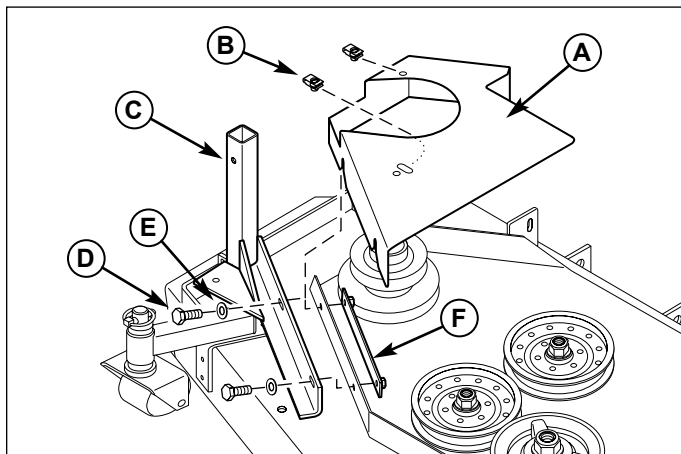

Figure 23. Install Blower Mount Bar & Belt Shield
1. Loosely install the 3/8-16 x 1-1/4" bolts (D, Figure 23), 3/8" washers (E), blower mount bar (C), belt guard (A) and nut bar (F) onto the mower deck. These fasteners will be tightened in a later step.
2. Install the 5/16" body clips (B) on the belt guard. The front body clip is install from underneath the guard.